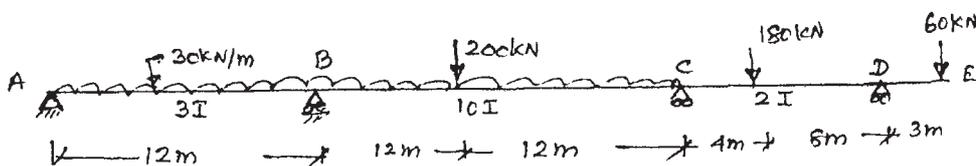

Fig. 6
14. (a) Analyse the continuous beam, shown in Fig. 6 by moment distribution method. Draw B.M.D.